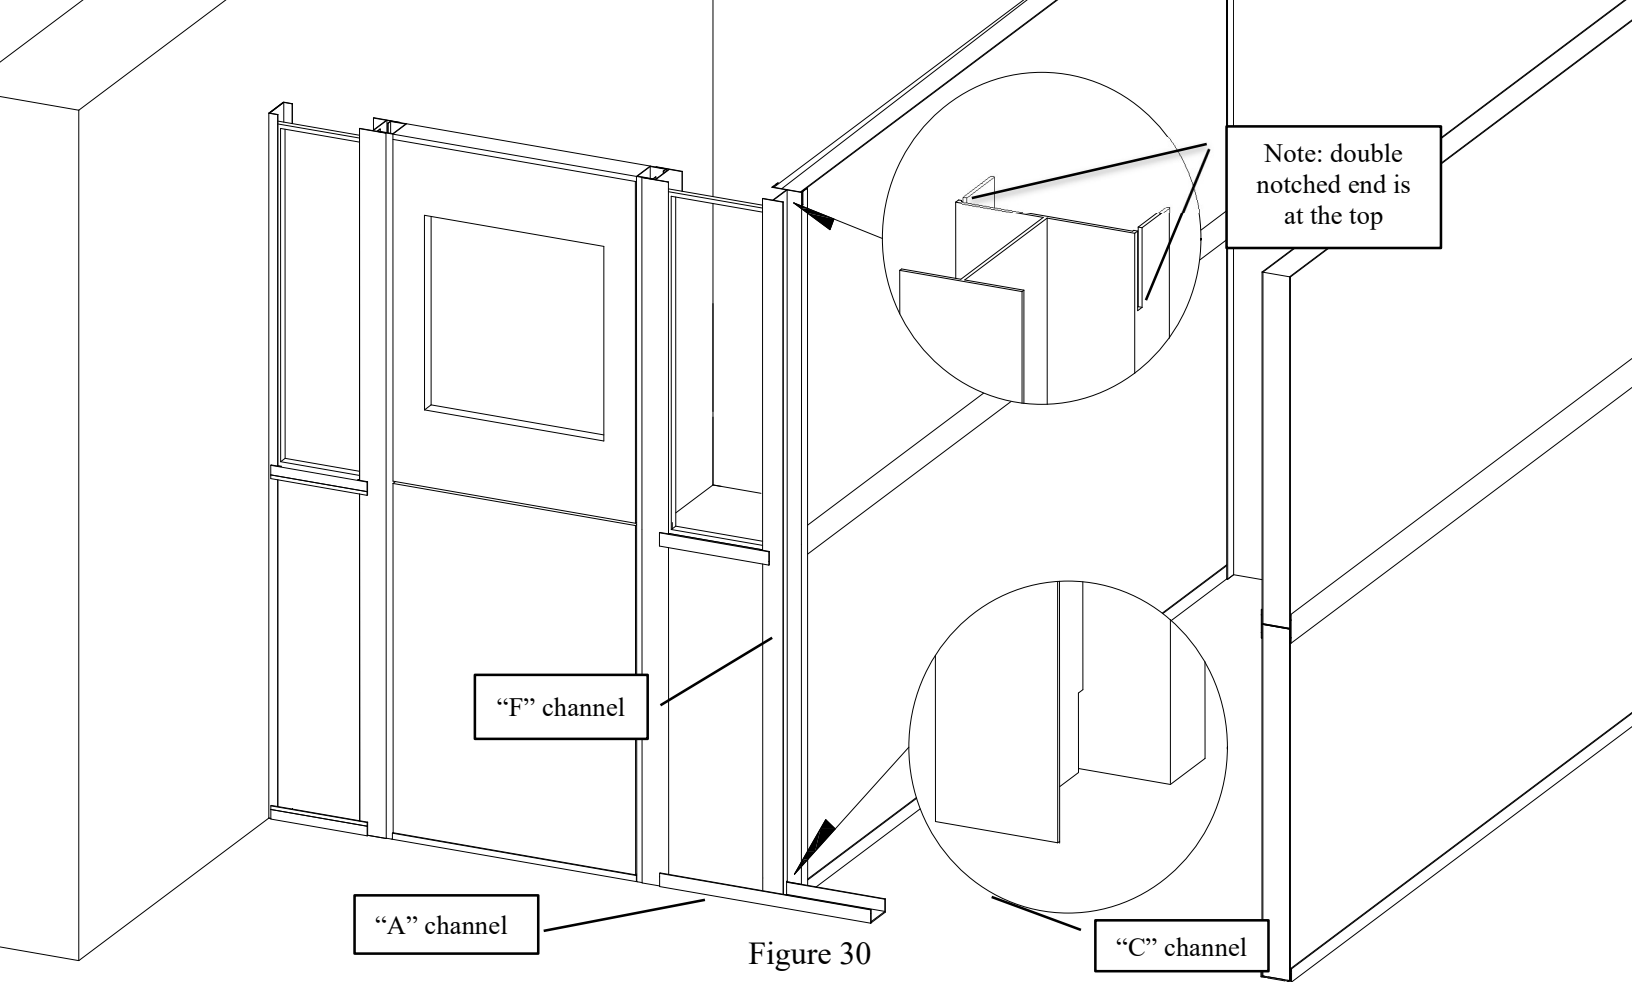

Figure 30
15. Place an "F" channel onto the previously installed "A" channel and also onto the front of the first division wall. This channel will also be fitted onto the previously installed filler panel and window. You may have to angle the "A" channel on the floor outward slightly to help insert this channel. See figure 30.